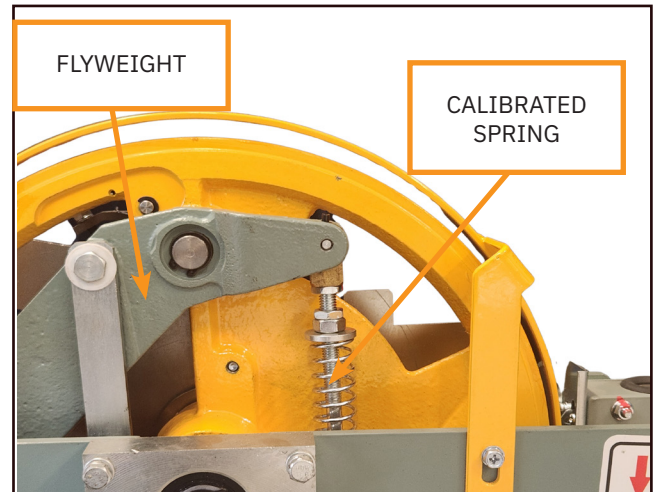

Figure 2
- This governor has two pivoting flyweights connected with a solid link to ensure simultaneous movement (see figure 1). The movement of the flyweights is controlled with a helical spring system (see figure 2). As the governor pulley rotates in the vertical plane, driven by the governor rope movement, the flyweights are driven outward due to the centrifugal force and compressing the calibrated spring assembly.